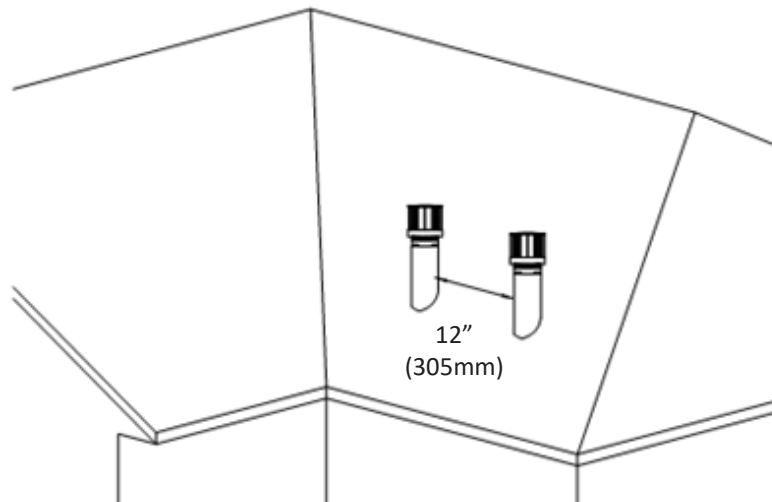

Figure 5.2 - Clearance between two vertical terminations
- Refer to Figure 5.2 for clearance between two vertical vent terminations.